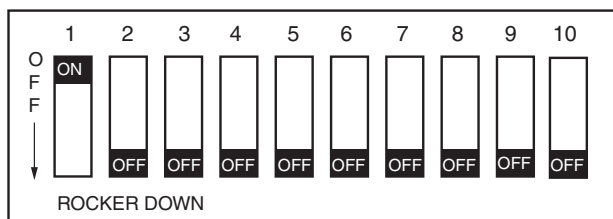

Fig. 53 — CoreSense Communication DIP Switch Settings for Kriwan Retrofit
2. Review the DIP switch settings on the CoreSense module. DIP switch no. 1 should be ON (up position) and all other DIP switches should be OFF (down position). See Fig. 53.